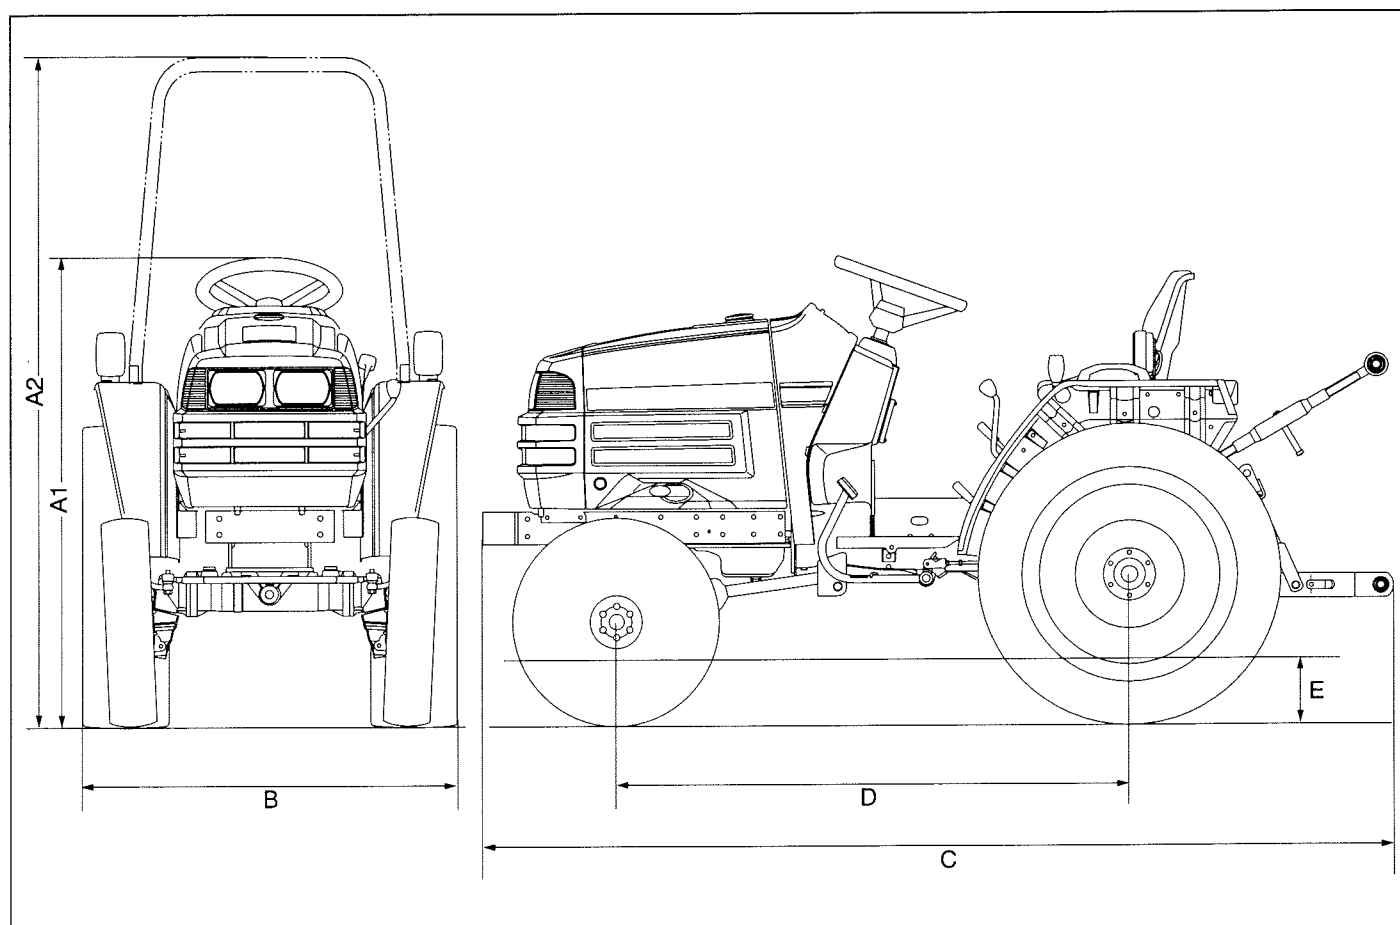

FIG. 116
9. Clutch Housing Plug – 1/8" pipe plug (1) in Fig. 116 into the hole in the bottom of the clutch housing (TM215/217).